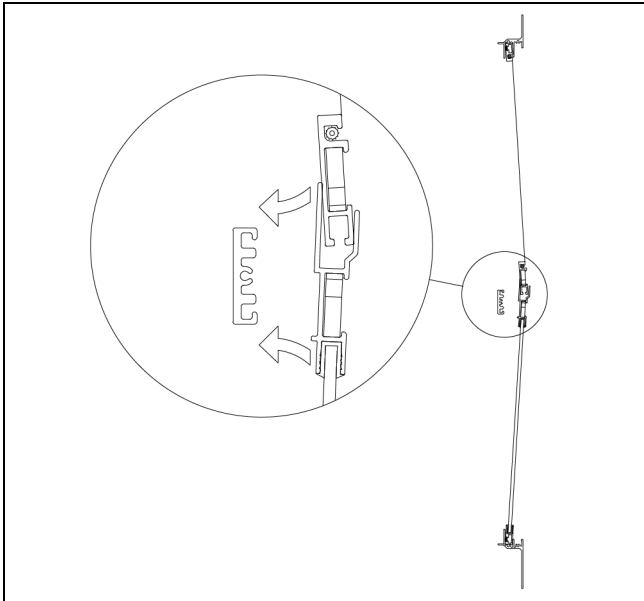

Figure 8
1. Position the top glass panel so that the finger pulls will be on top. Insert the pins in outer track, slide insert down and let the finger pull pins rest against the combination frame. See Figure 8.